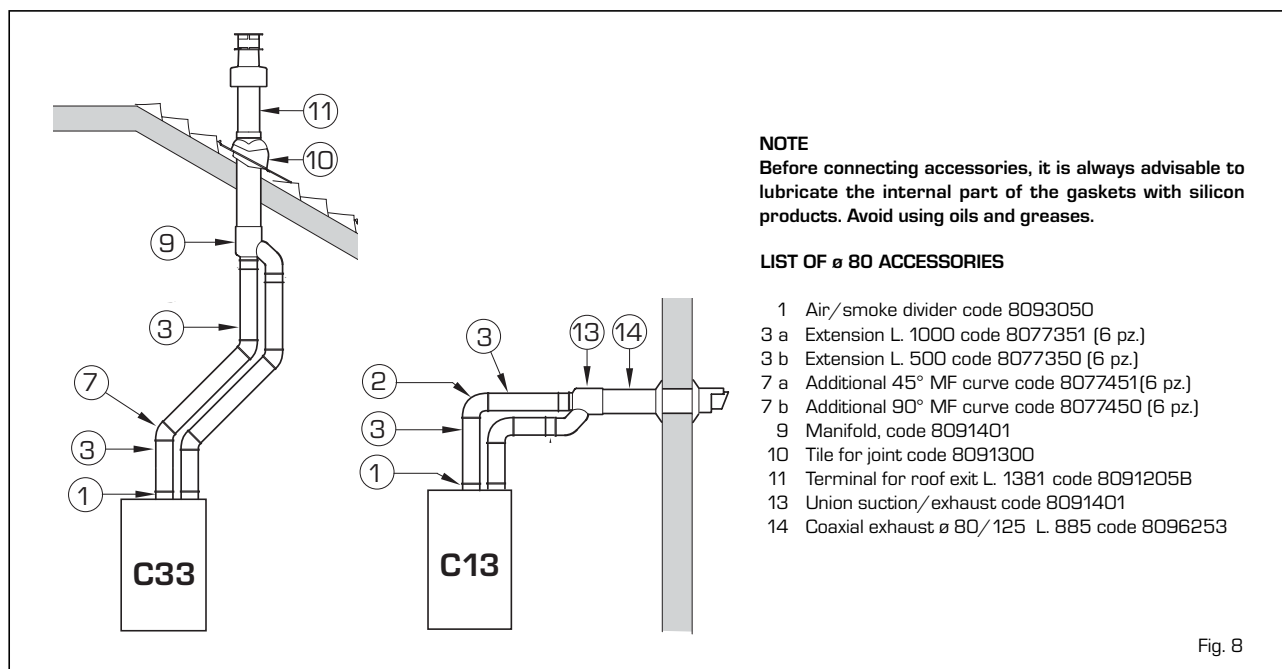

Fig. 8
2.6.1 Separate ducts kit (fig. 8)
The diagrams of Figure 8 show a couple of examples of the permitted exhausts configurations.